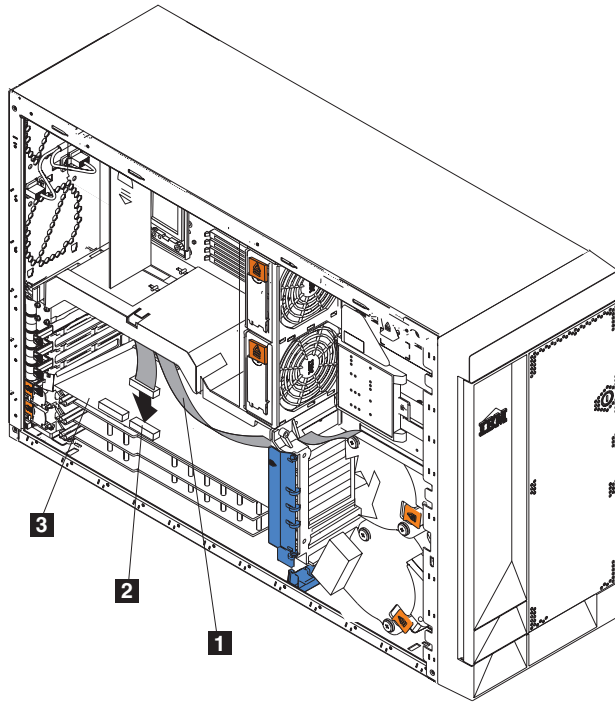
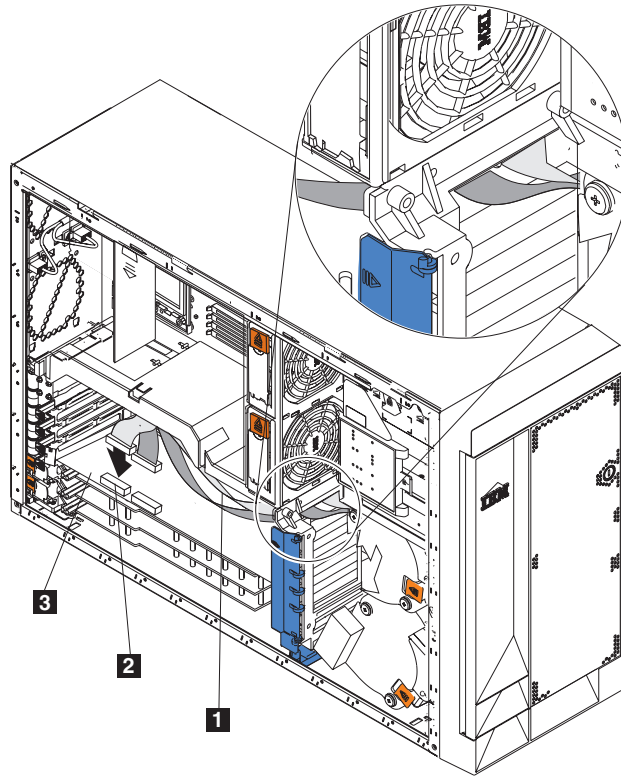

Figure 47. Routing one SCSI cable from backplane to the ServeRAID controller
Figure 48. Routing two SCSI cables from backplanes to the ServeRAID controller
Cabling a ServeRAID controller: The IBM ServeRAID controller in your engine controls the internal hot-swap hard disk drives. A ServeRAID controller can, for example, enable you to configure the internal hot-swap hard disk drives into disk arrays. Figure 47 on page 112 and Figure 48 on page 113 show the cabling for internal hot-swap hard disk drives. You can also cable a ServeRAID controller to external hard disk drives. See your ServeRAID controller option documentation for complete instructions for installing a ServeRAID controller in your engine and for additional information about ServeRAID controllers.
11. Route the free end of the SCSI cable from the SCSI backplane through the adapter-support bracket opening and toward the ServeRAID controller (see Figure 47 on page 112).
Figure 47 on page 112 shows how to route one SCSI cable to the ServeRAID controller.
Figure 48 on page 113 shows how to route two SCSI cables from backplanes to the ServeRAID controller (in PCI slot 3 in Figure 48 on page 113).